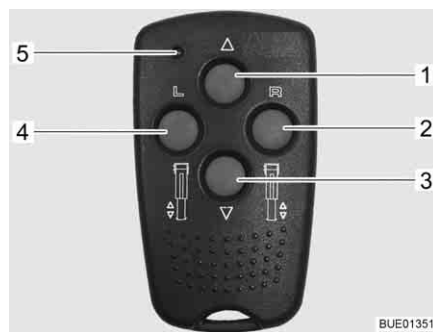
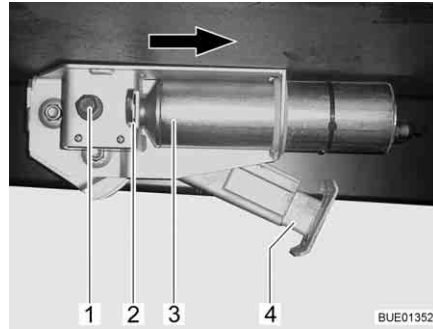

Fig. 29 Remote control for electrical steady legs
Fig. 30 Electrical steady leg on vehicle
- Preselection: steady leg left (Fig. 29,4)
- Preselection: steady leg right (Fig. 29,2)
- Retract steady leg (Fig. 29,1)
- Extend steady leg (Fig. 29,3)
- Control LED (Fig. 29,5)
Each time a button is pressed, the control LED (Fig. 29,5) flashes.
- Press and hold the preselection button for the steady leg side (Fig. 29,2 or 4) for approx. 1 second.
- Within 2 seconds, press the "Extend steady leg" button (Fig. 29,3) and hold it until the support leg (Fig. 30,4) is touching the ground.
- Within 2 seconds, press the "Retract steady leg" button (Fig. 29,1) and hold it until the support leg (Fig. 30,4) is fully retracted. Once the support leg is fully retracted, a control signal sounds.
- Press the securing bracket (Fig. 30,2) inwards.
- Push the motor (Fig. 30,3) in the direction indicated as far as it will go.
- Extend or retract the steady leg like a mechanical steady leg via the hexagonal nut (Fig. 30,1).
When the fault has been rectified: Push the motor in the opposite direction of the arrow to its initial position. Pull out the securing bracket (Fig. 30,2) until it engages.